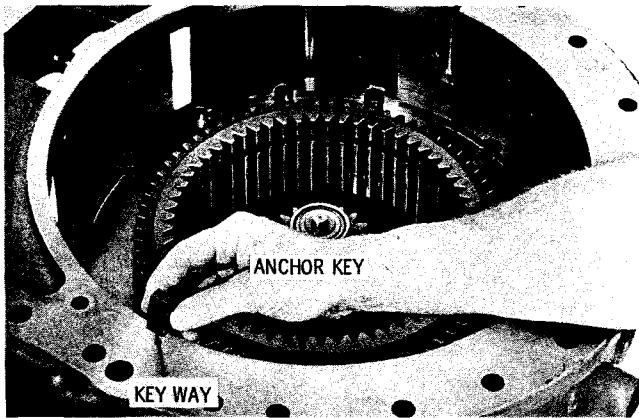

Fig. 7-18. Installing anchor key
(2) Install one anchor key (approximately 1.25 inches long) into each keyway in the transmission housing (fig. 7-18).